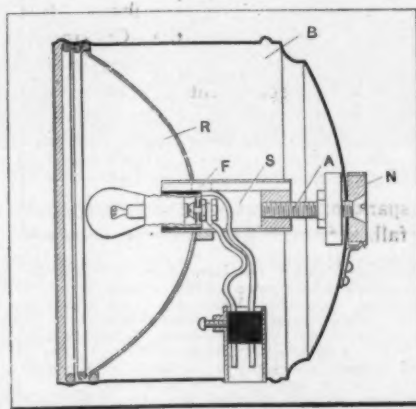

Fig. 2—Perry Electric Light with adjustable lamp socket
1. The headlight shown in Fig. 2 comprises a lamp with closed back B, a para-